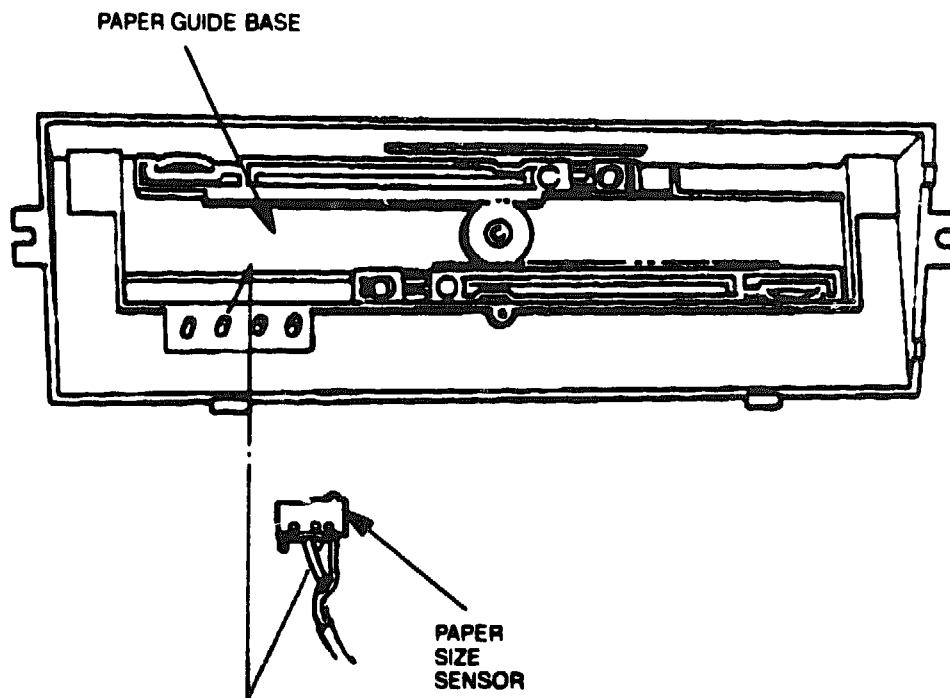

Figure 6-65 Paper Size Sensor Subassembly
3. Remove the size sensor assembly from the CSG paper guide base (see Figure 6-65).
Refer to Figure 6-65 for the correct mounting position of the paper size sensor.